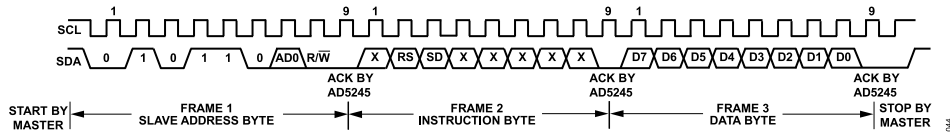
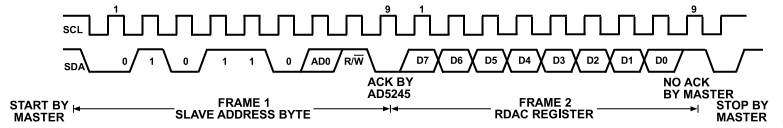

Figure 44. Writing to the RDAC Register
Figure 45. Reading Data from a Previously Selected RDAC Register in Write Mode
1. The master initiates data transfer by establishing a START condition, which is when a high-to-low transition on the SDA line occurs while SCL is high (see Figure 44). The next byte is the slave address byte, which consists of the 7-bit slave address followed by an R/W bit (this bit determines whether data is read from or written to the slave device). The AD5245 has one configurable address bit, AD0 (see Table 10).
during the low period of SCL and remain stable during the high period of SCL (see Figure 44).
4. In read mode, the data byte follows immediately after the acknowledgment of the slave address byte. Data is transmitted over the serial bus in sequences of nine clock pulses (a slight difference with write mode, in which eight data bits are followed by an acknowledge bit). Similarly, the transitions on the SDA line must occur during the low period of SCL and remain stable during the high period of SCL (see Figure 45).
5. After all data bits have been read or written, a STOP condition is established by the master. A STOP condition is defined as a low-to-high transition on the SDA line while SCL is high. In write mode, the master pulls the SDA line high during the 10th clock pulse to establish a STOP condition (see Figure 44). In read mode, the master issues a no acknowledge for the ninth clock pulse (that is, the SDA line remains high). The master then brings the SDA line low before the 10th clock pulse, which goes high to establish a STOP condition (see Figure 45).